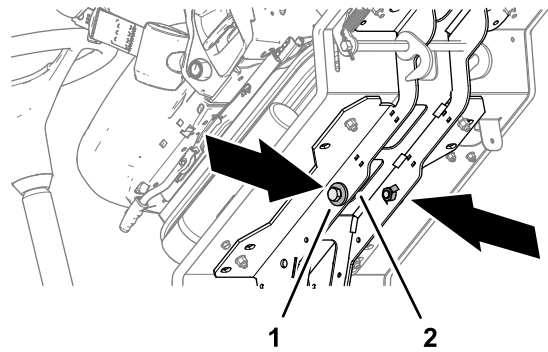

Figure 50
6. Stow the 2 bolts (12 x 40 mm) and 2 washers (12 mm) stored in the platform support rails (Figure 50).